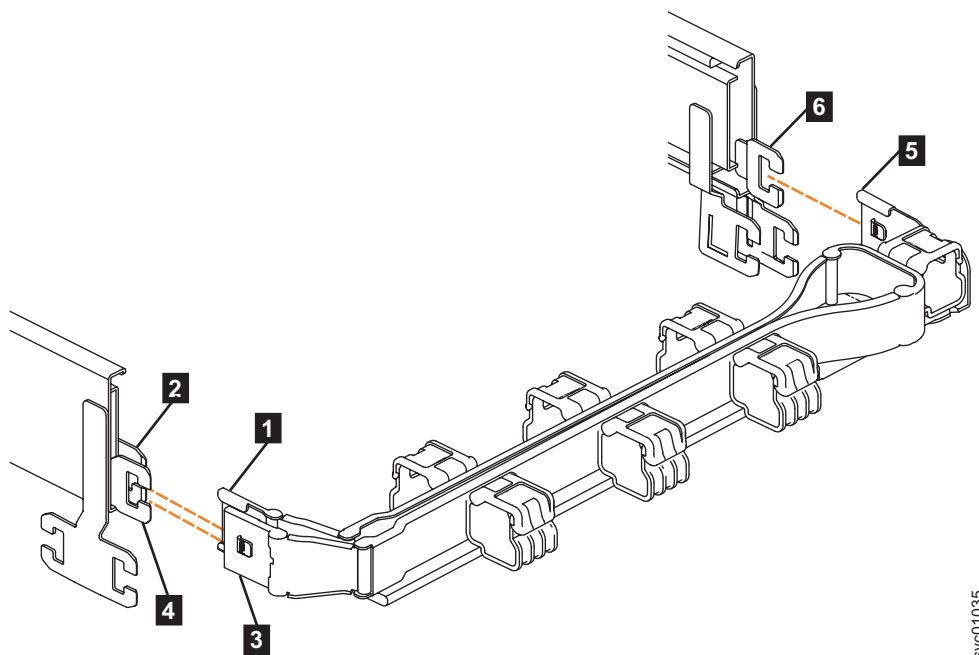
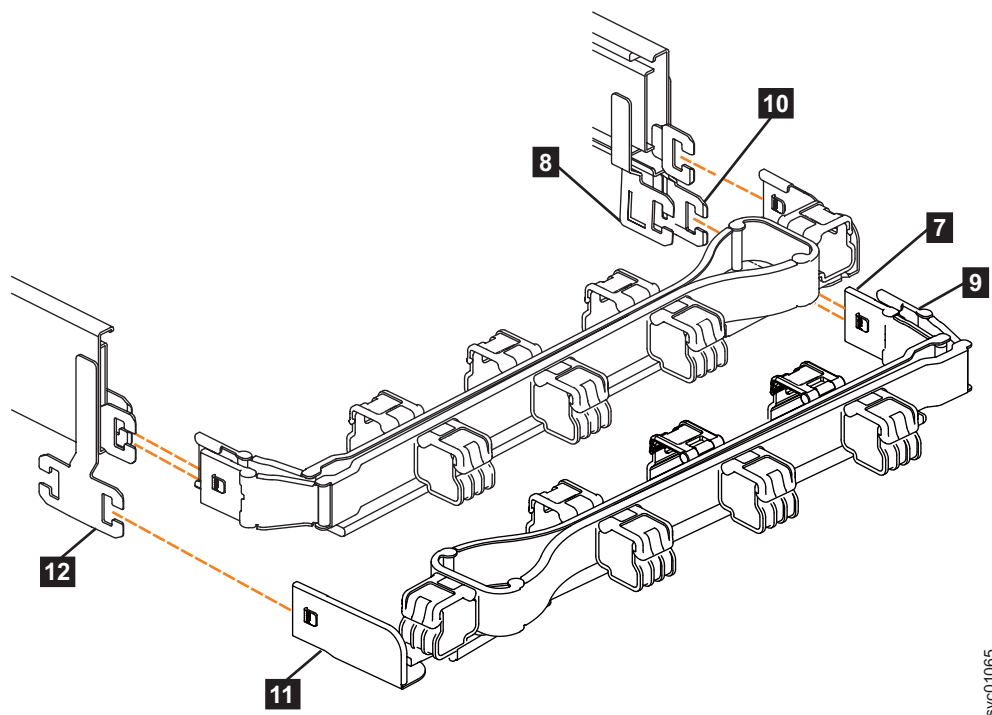

Figure 62. Connectors for the upper cable management arm
Figure 63. Components of the lower CMA assembly
The connectors of the CMA are installed on the rail hooks at the end of the support rails. Figure 62 on page 72 shows the connectors on the upper CMA assembly.
1. Press the latch on the connector base on the upper CMA assembly (**5** in Figure 62).
2. Pull the connector to remove it from the connector base on the right support rail (**6** in Figure 62).
3. Press the latch on the outer connector of the upper CMA assembly (**3** in Figure 62).
4. Remove the outer connector from the inner member of the left support rail (**4** in Figure 62).
5. Remove the inner connector of the upper CMA assembly (**1**) from the inner member of the left support rail (**2**), as shown in Figure 62.
Note: The procedure for removing the lower CMA assembly is the same as the procedure to remove the upper CMA assembly. However, the connector locations are reversed. For example, the connector base of the upper CMA (**5** in Figure 62) connects to the right rail. The connector base of the lower CMA (**11** in Figure 63 on page 73) attaches to the left rail.
6. Remove the connector base on the lower CMA assembly (**11**) from the connector on the left support rail (**12**), as Figure 63.
7. Remove the inner connector of the lower CMA assembly (**9**) from the outer member of the right support rail (**10**), as shown in Figure 63.
8. Remove the outer connector of the lower CMA assembly (**7**) from the inner member of the right support rail (**8**), as shown in Figure 63.